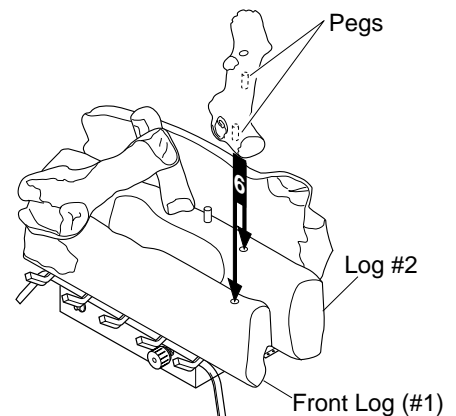

Figure 29 - Installing Crossover Log (#6)
6. Locate pegs on the bottom of crossover log (#6). Slide these pegs into the holes located in back log (#3) and front log (#1). See Figure 29.